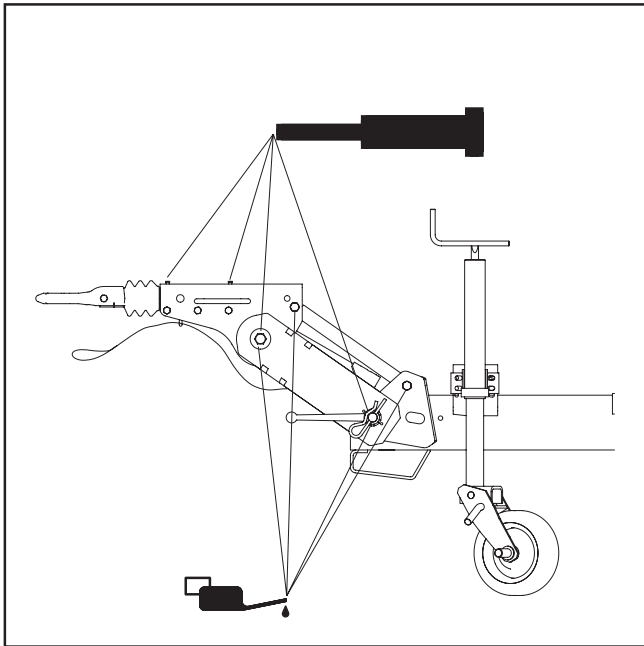

FIG.88
- Lubricate all the sliding surfaces and joints in the overrun brake (FIG. 88). Use DIN 51825 multipurpose grease.